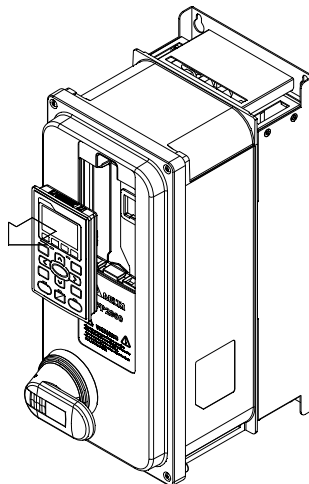

Figure 6-7
- 1) Remove the keypad. (As shown in figure 6-7)